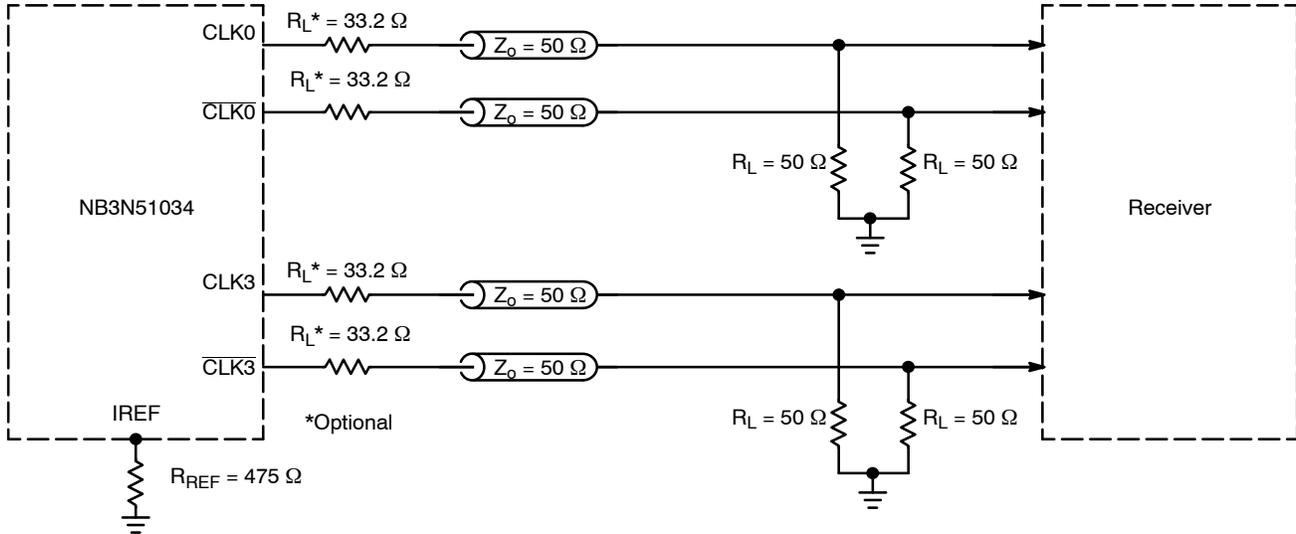
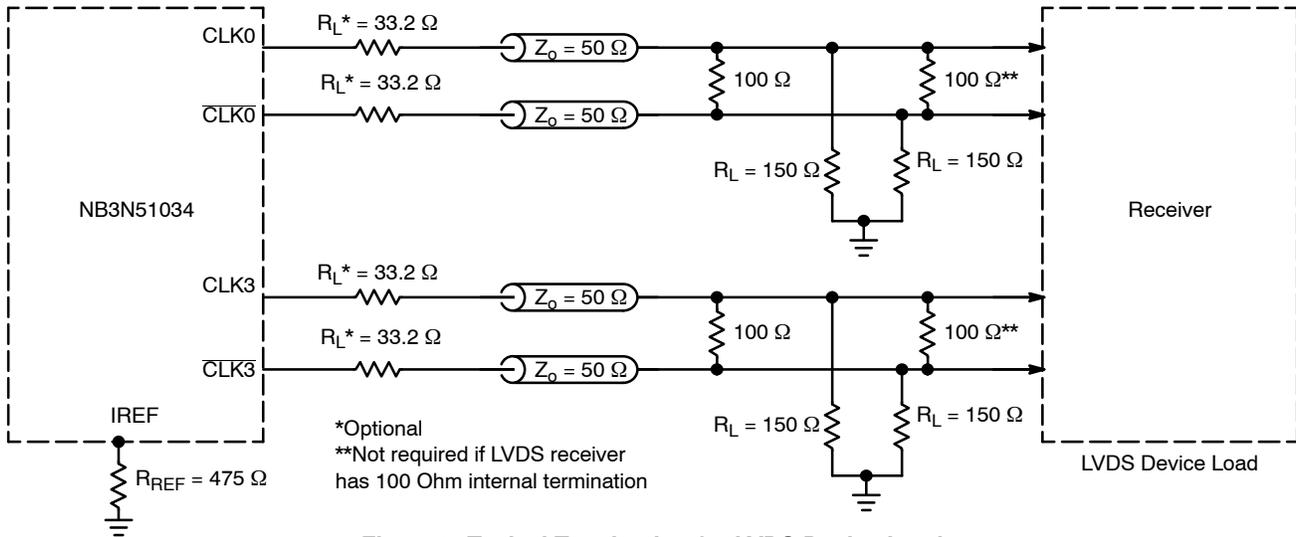

Figure 7. Typical Termination for HCSL Output Driver and Device Evaluation
Figure 8. Typical Termination for LVDS Device Load
- VDDXD and VDDODA power pins must be shorted to power supply voltage V_{DD} and GNDXD and GNDODA ground pins must be shorted to power supply ground GND. Measurement taken with outputs terminated with R_S = 33.2 Ω, R_L = 50 Ω, with test load capacitance of 2 pF and current biasing resistor set at 475 Ω. See Figure 7. Guaranteed by characterization.
12. VDDXD and VDDODA power pins must be shorted to power supply voltage V_{DD} and GNDXD and GNDODA ground pins must be shorted to power supply ground GND. Measurement taken from differential output on single-ended channel terminated with $R_S = 33.2\ \Omega$, $R_L = 50\ \Omega$, with test load capacitance of 2 pF and current biasing resistor set at 475 Ω . See Figure 7. Guaranteed by characterization.
19. VDDXD and VDDODA power pins must be shorted to power supply voltage V_{DD} and GNDXD and GNDODA ground pins must be shorted to power supply ground GND. Measurement taken from differential output on single-ended channel terminated with $R_S = 33.2\ \Omega$, $R_L = 50\ \Omega$, with test load capacitance of 2 pF and current biasing resistor set at 475 Ω . See Figure 7. This parameter is guaranteed by characterization. Not tested in production.
The outputs can be terminated to drive HCSL receiver (see Figure 7) or LVDS receiver (see Figure 8). HCSL output interface requires 49.9 Ω termination resistors to GND for generating the output levels. LVDS output interface may not